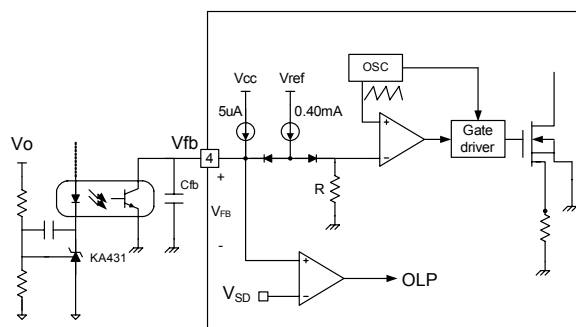

Figure 12. PWM and Feedback Circuit
2. Feedback Control: The FSQ211 is the voltage mode controlled device as shown in Figure 12. Usually, an opto-coupler and shunt regulator like KA431 are used to implement the feedback network. The feedback voltage is compared with an internally generated sawtooth waveform. This directly controls the duty cycle. When the KA431 reference pin voltage exceeds the internal reference voltage of 2.5V, the opto-coupler LED current increases, the feedback voltage Vfb is pulled down, and it reduces the duty cycle. This happens when the input voltage increases or the output load decreases.